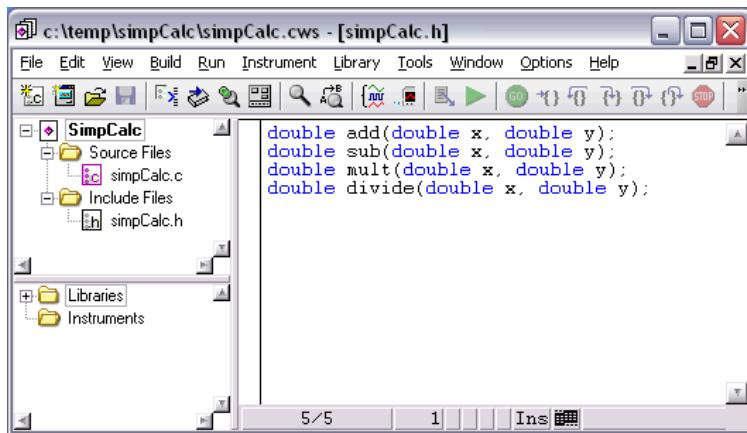

Figure 2. simpCalc Header File
8. Save the header file as `simpCalc.h` and add the file to the project. The code in the header file should match the code in Figure 2.